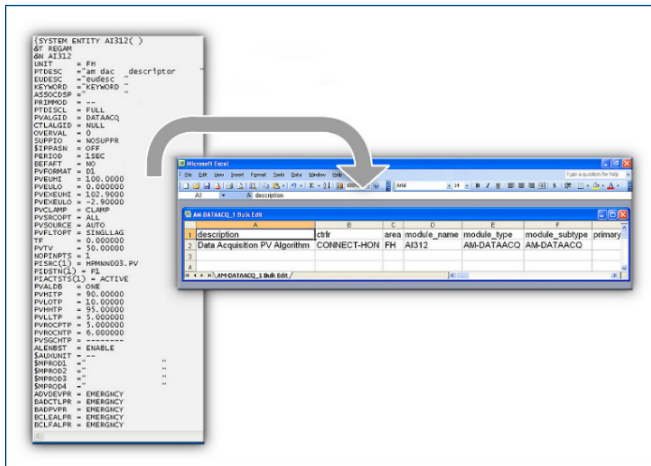

Figure 4. Honeywell EB files convert to an importable DeltaV system format for DeltaV Console.CONNECT for Honeywell TDC 3000 Systems modules.
Part of the DeltaV Console.CONNECT for Honeywell TDC 3000 Systems is a service for converting Honeywell Exception Build (EB) configuration files to DeltaV Console.CONNECT for Honeywell TDC 3000 Systems modules. EB exported text files are translated to a format that is imported into the DeltaV System, illustrated in Figure 4 (below).